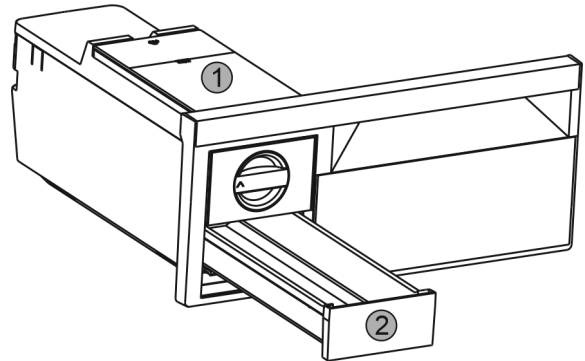

Fig. 37
- ▶ Take out the water tank *Fig. 37 (1)* and ice cube drawer *Fig. 37 (2)*.